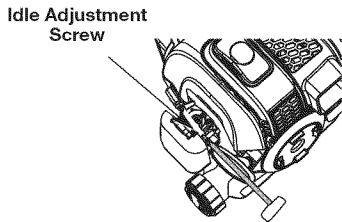

Fig. 29
The idle speed of the engine is adjustable. An idle adjustment screw is between the air filter cover and the engine starter housing (Fig. 29).
- Release the throttle trigger and let the engine idle. If the engine stops, insert a small phillips screwdriver into the idle adjustment screw (Fig. 29). Turn the idle speed screw clockwise 1/8 of a turn at a time (as needed) until the engine idles smoothly.